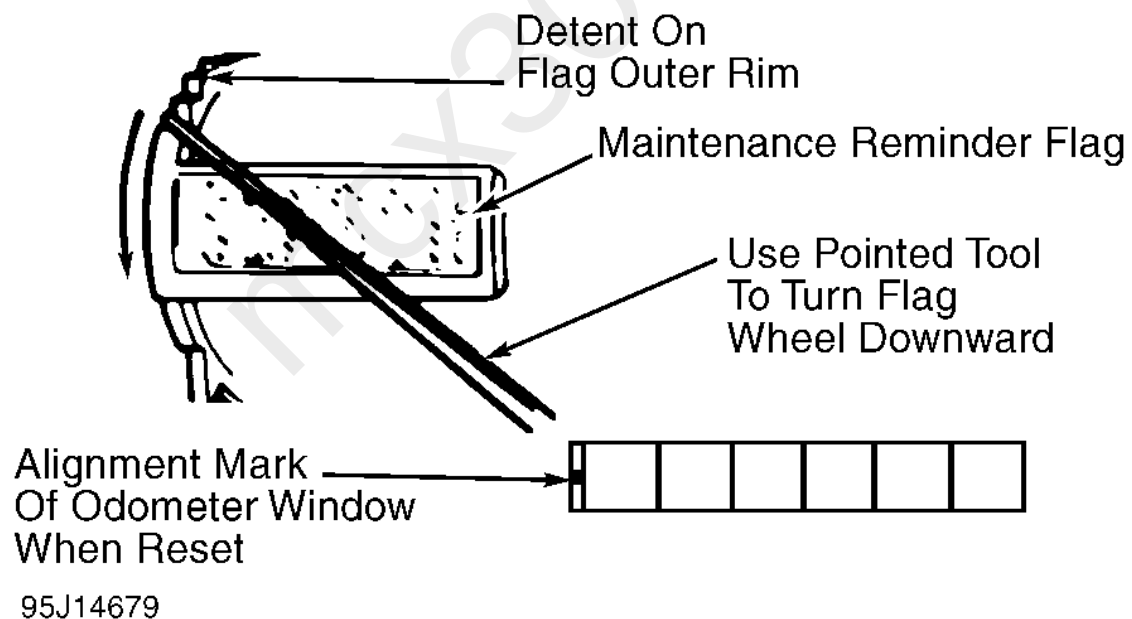

Fig. 3: Resetting Reminder Flag
1. Every 30, 000 miles, a reminder flag appears in speedometer face, indicating service of oxygen sensor is necessary. See **Fig. 3**. Inspect and service oxygen sensor as necessary and reset flag.